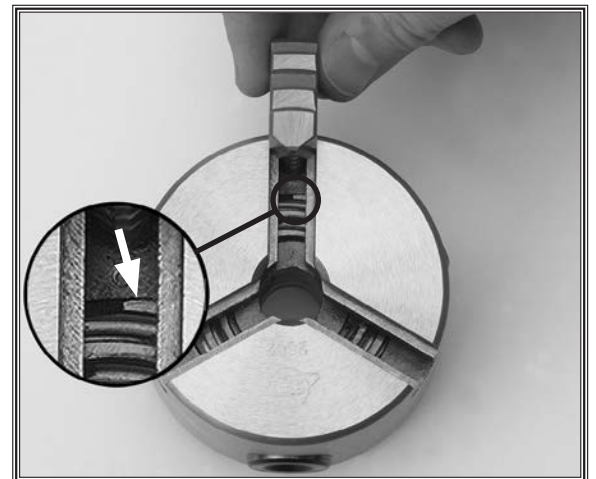

Figure 9. Lead thread and Jaw # 1.
4. Turn the chuck key clockwise until you find the lead thread (see Figure 9).
5. Locate the alternate jaws 1, 2, and 3, and insert jaw #1 into the channel that is showing the lead thread (see Figure 9).